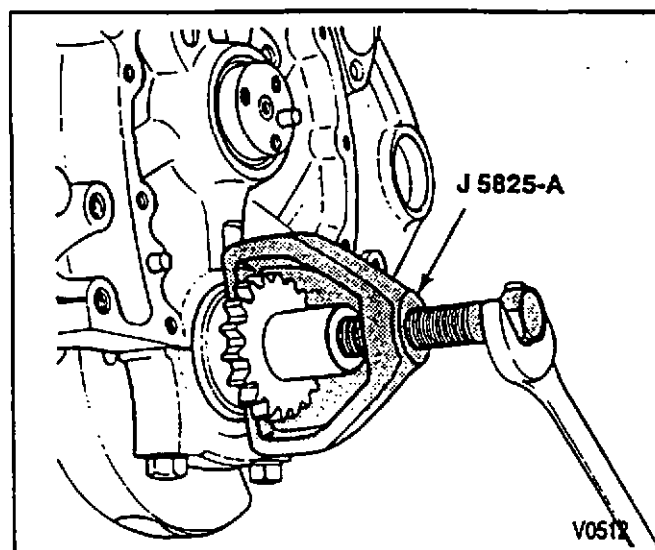

Figure 11—Removing the Crankshaft Sprocket
2. Balance shaft drive gear (37).
3. Crankshaft sprocket (38), if necessary. Use J 5825 (figure 11).